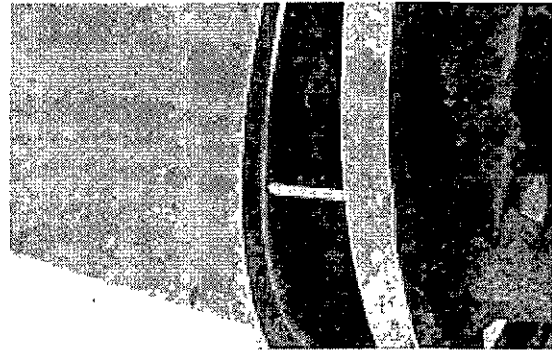
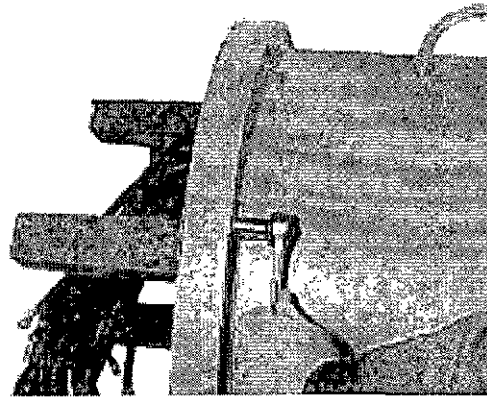

Figure 6-52
Figure 6-53
1. Install two guide pins (threaded rod can be used) into the generator side of the end bracket mounting holes. Align the guide pins with the holes in the generator frame and slide the bracket onto the frame. (Figure 6-52.) Install bracket mounting cap screws. (Figure 6-53.)